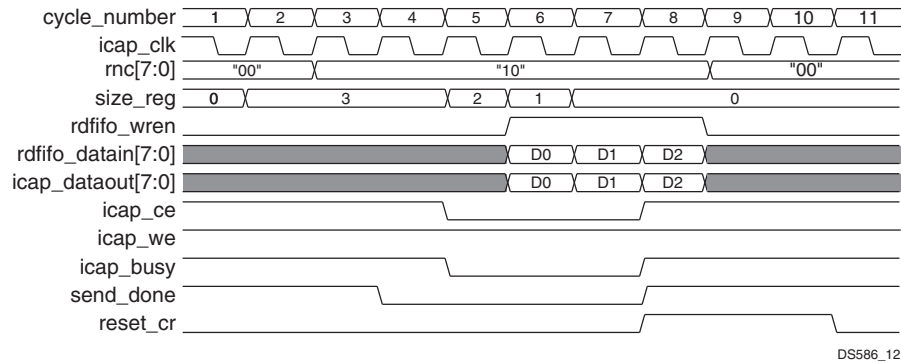
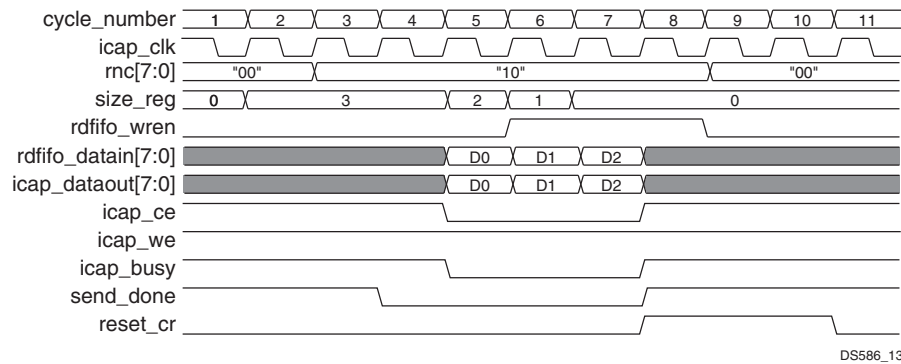
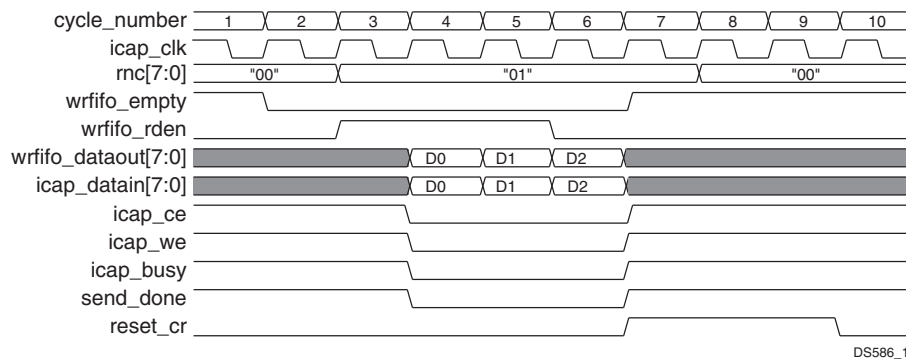

Figure 13: Read Cycle for Virtex-6 Devices
Figure 14: Read Cycle for Spartan-6 Devices
Figure 15: Write Cycle
- Write in to the Control Register to initiate the read or write of a bitstream. The CR register determines the direction of the data transfer. Writing "0x00000001" into the Control Register initiates the write configuration. Writing "0x00000002" into the Control Register initiates the read. This is shown as `rnc [7:0]` in Figure 13, Figure 14 and Figure 15.
- Write into the Control Register to initiate the read or write of bitstream. The CR register determines the direction of the data transfer. Writing "0x00000001" into the Control Register initiates the configuration. Writing "0x00000002" into the Control Register initiates the read. This is shown as `rnc [7:0]` in Figure 13, Figure 14 and Figure 15.
The timing diagrams shown in Figure 13, Figure 14, and Figure 15 show the read and write cycles of AXI HWICAP core for the Virtex-6 and Spartan-6 FPGAs.